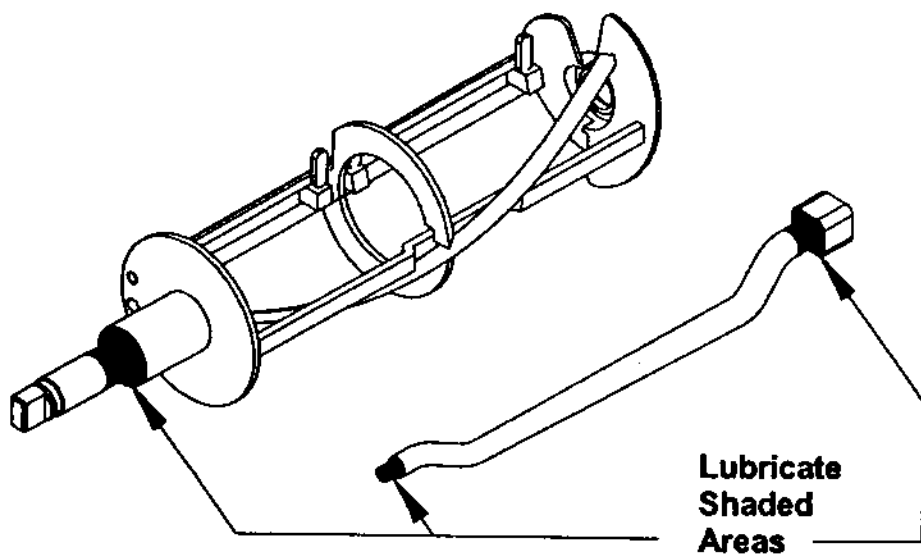
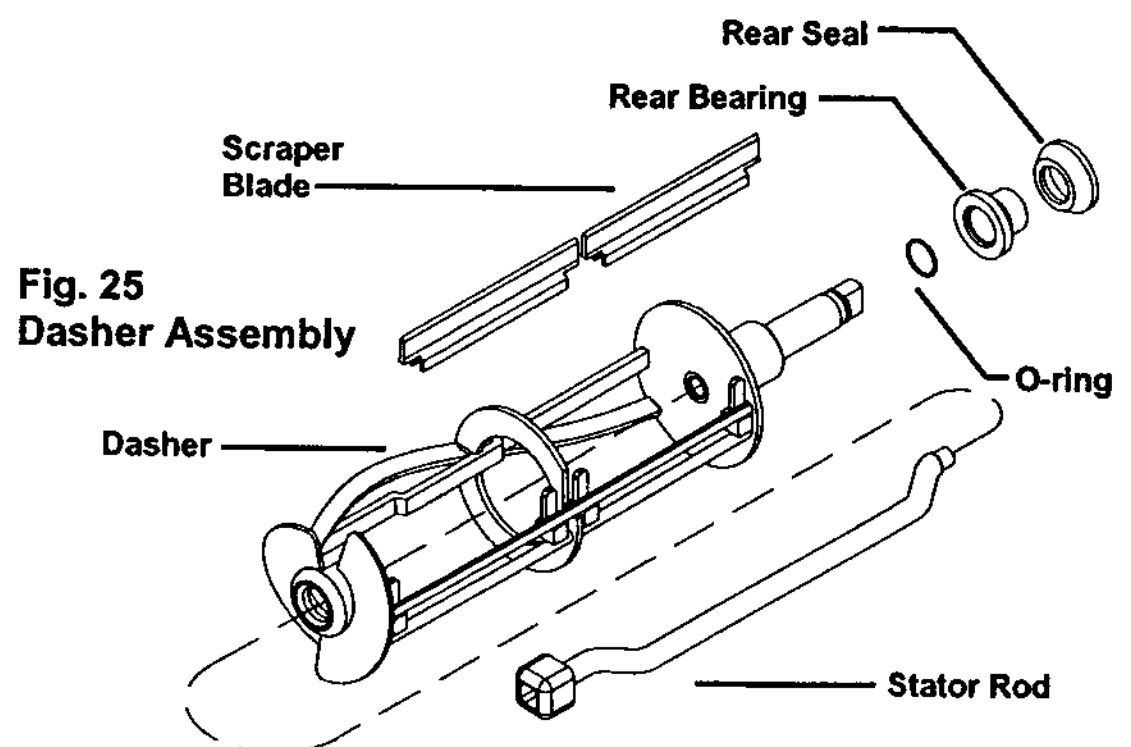

Fig. 24a
Fig. 25
- b. Lubricate the two areas of the stator rod (Fig. 24a) and slide the stator rod into the dasher (Fig. 25). Make certain that the end of the stator rod is inserted into the hole at the rear of the dasher.
- c. Assemble and install the rear seal with the rubber portion toward the rear of the freezing cylinder as indicated in Fig. 25.